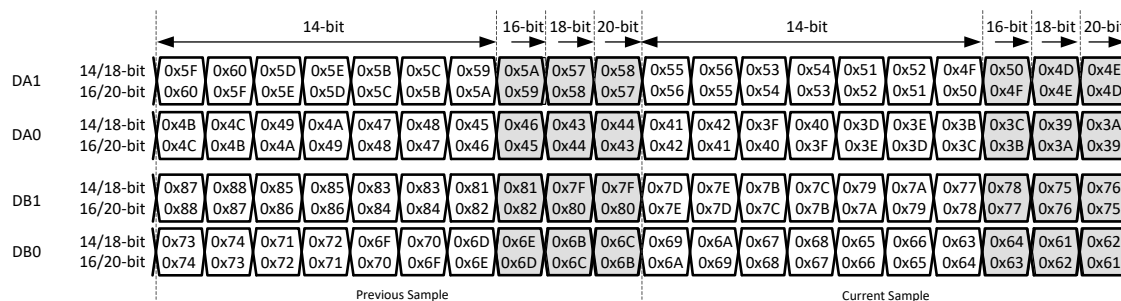

图 8-35. 2-wire output bit mapper
**2-wire mode:** in this mode both the current and the previous sample have to be used in the address space as shown in 图 8-35. The address order is different for 14/18-bit and 16/20-bit. Note: there are unused addresses between samples for resolution less than 20-bit (grey back ground), which can be skipped if not used.